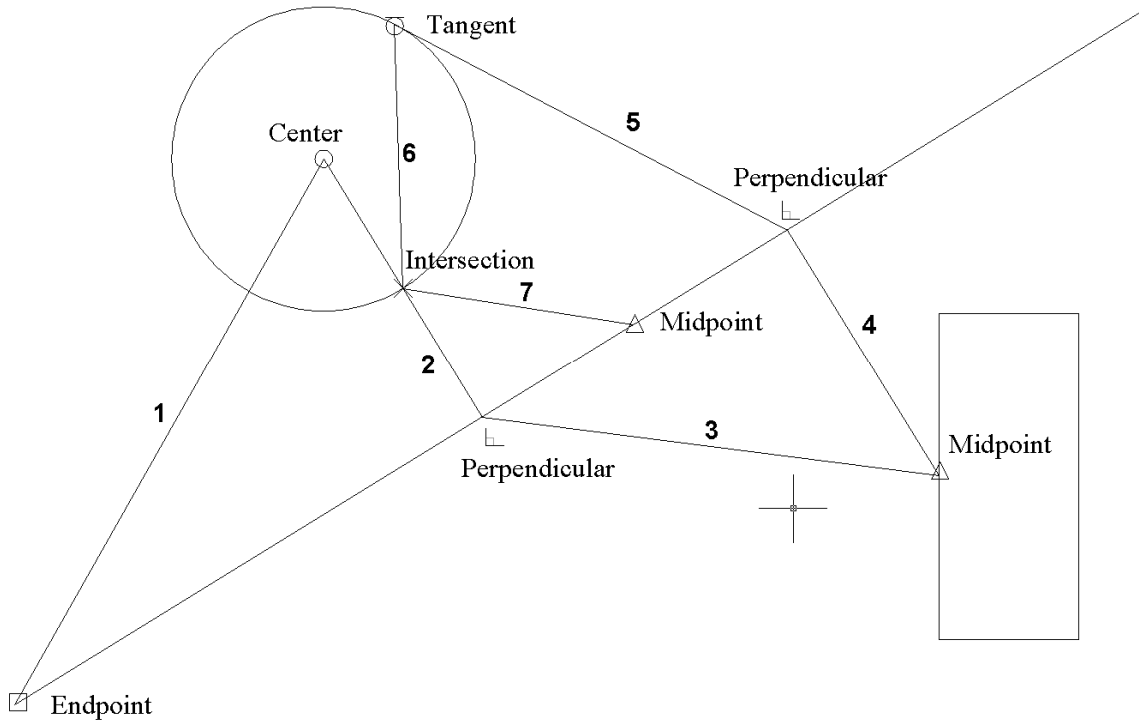

Figure 3-2.5 Lines to draw
12. Draw the additional lines shown in **Figure 3-2.5** using the appropriate *Object Snap* (changing the selected Snaps as required to select the required points).